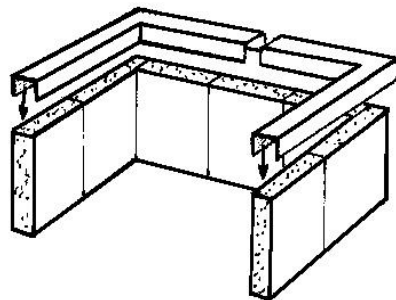

Fig. 5
**PLACEMENT OF FIREBRICK TILES (Fig. 5)**